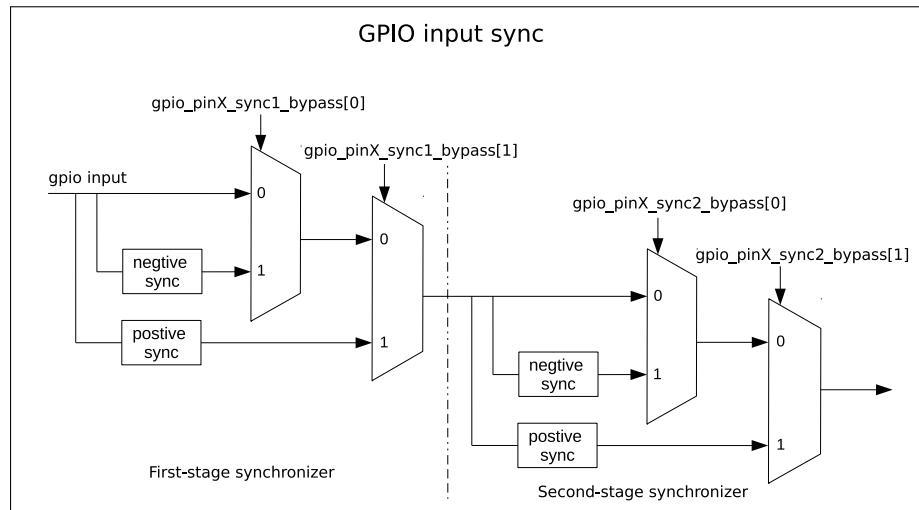

Figure 5-2. GPIO Input Synchronized on Clock Rising Edge or on Falling Edge
- Set `GPIO_PIN x _SYNC1_BYPASS` to enable input signal synchronized on rising edge or on falling edge in the first clock, see Figure 5-2.
- Set `GPIO_PIN x _SYNC2_BYPASS` to enable input signal synchronized on rising edge or on falling edge in the second clock, see Figure 5-2.